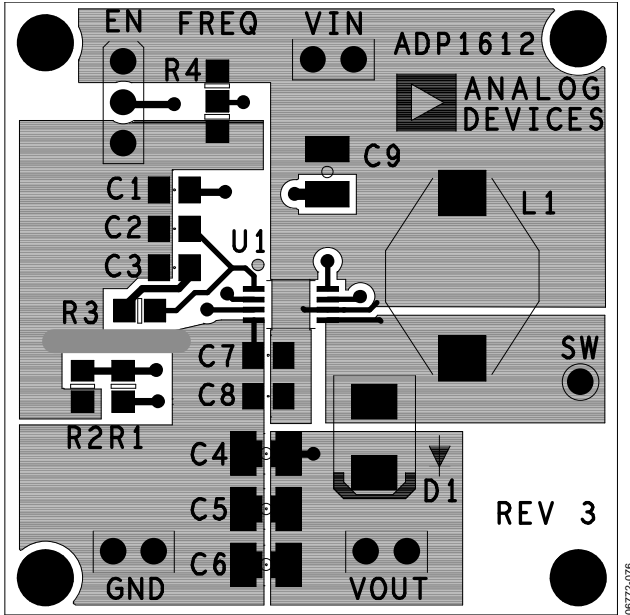

Figure 76. Example Layout for ADP1612/ADP1613 Boost Application (Top Layer)
- Keep the low ESR input capacitor,  $C_{IN}$  (labeled as C7 in Figure 76), close to VIN and GND. This minimizes noise injected into the part from board parasitic inductance.
- Keep the high current path from  $C_{IN}$  (labeled as C7 in Figure 76) through the L1 inductor to SW and GND as short as possible.
- Keep the high current path from VIN through L1, the rectifier (D1) and the output capacitor,  $C_{OUT}$  (labeled as C4 in Figure 76) as short as possible.
- Connect the softstart capacitor,  $C_{SS}$  (labeled as C1 in Figure 76) as close to the device as possible. Connect the ground of the softstart capacitor to an AGND plane that makes a Kelvin connection to the GND pin.